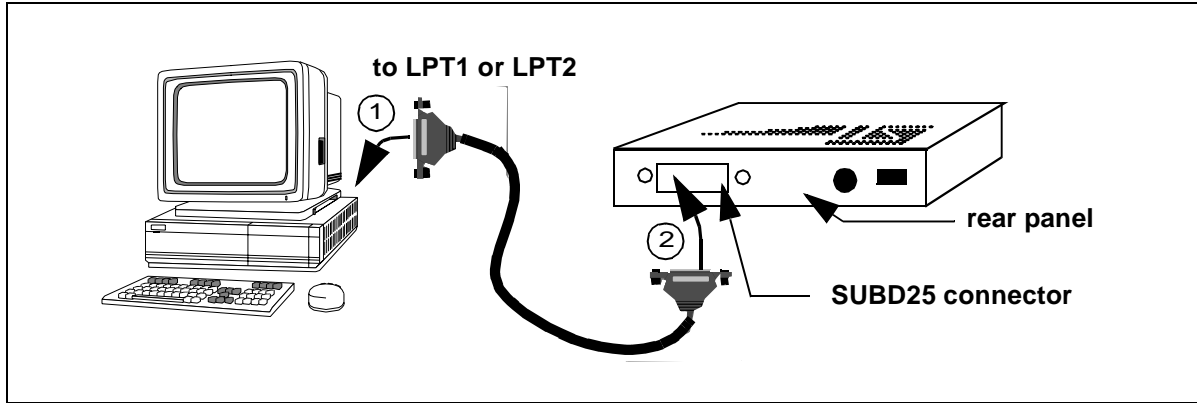

Figure 4: Connecting the Emulator to the PC
- 2 Connect one end of the parallel cable to the emulator's rear panel 25-pin SUB-D connector and the other end to one of the PC's parallel ports (LPT1 to LPT2)—refer to *Figure 4*.